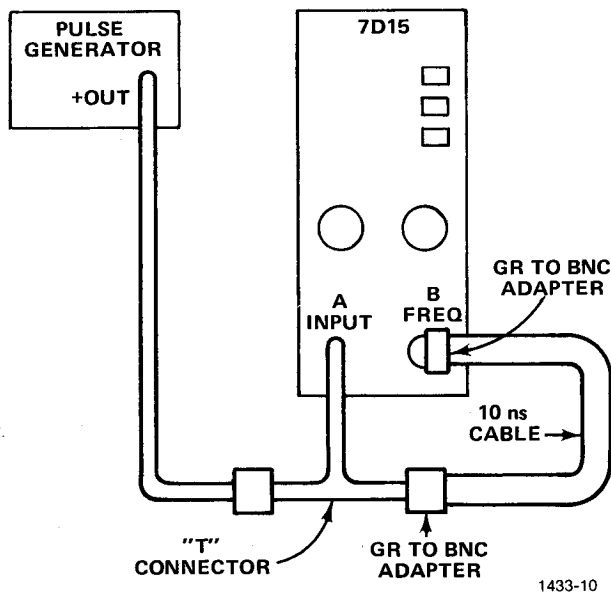

Fig. 5-4. Equipment setup used to check TIM A>B accuracy.
f. Connect equipment as shown in Figure 5-4 using the 10 ns cable.